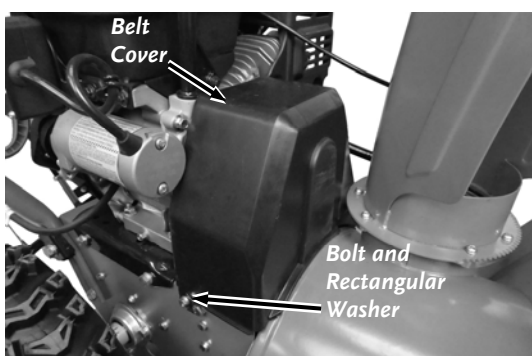

Figure 42
1. Remove the two Bolts and rectangular Washers from the Belt Cover using a 10mm Wrench and remove the Belt Cover (**Figure 42**).